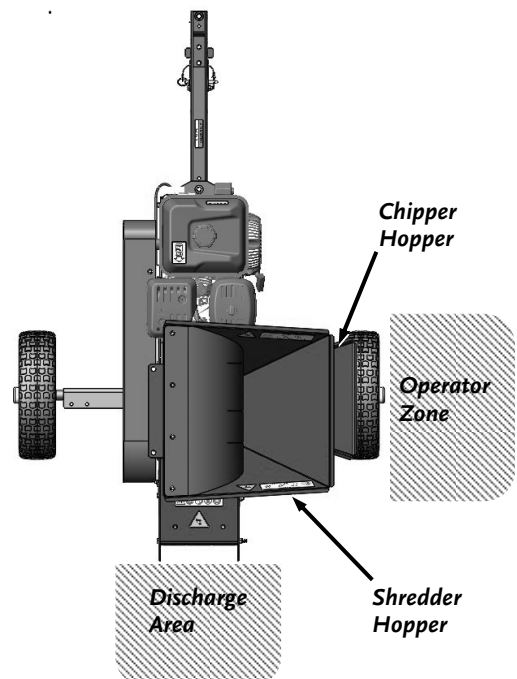

Figure 11
- When viewed from the Chipper Hopper side of the Operator's Zone (**Figure 11**), the Rotor turns in a clockwise direction.